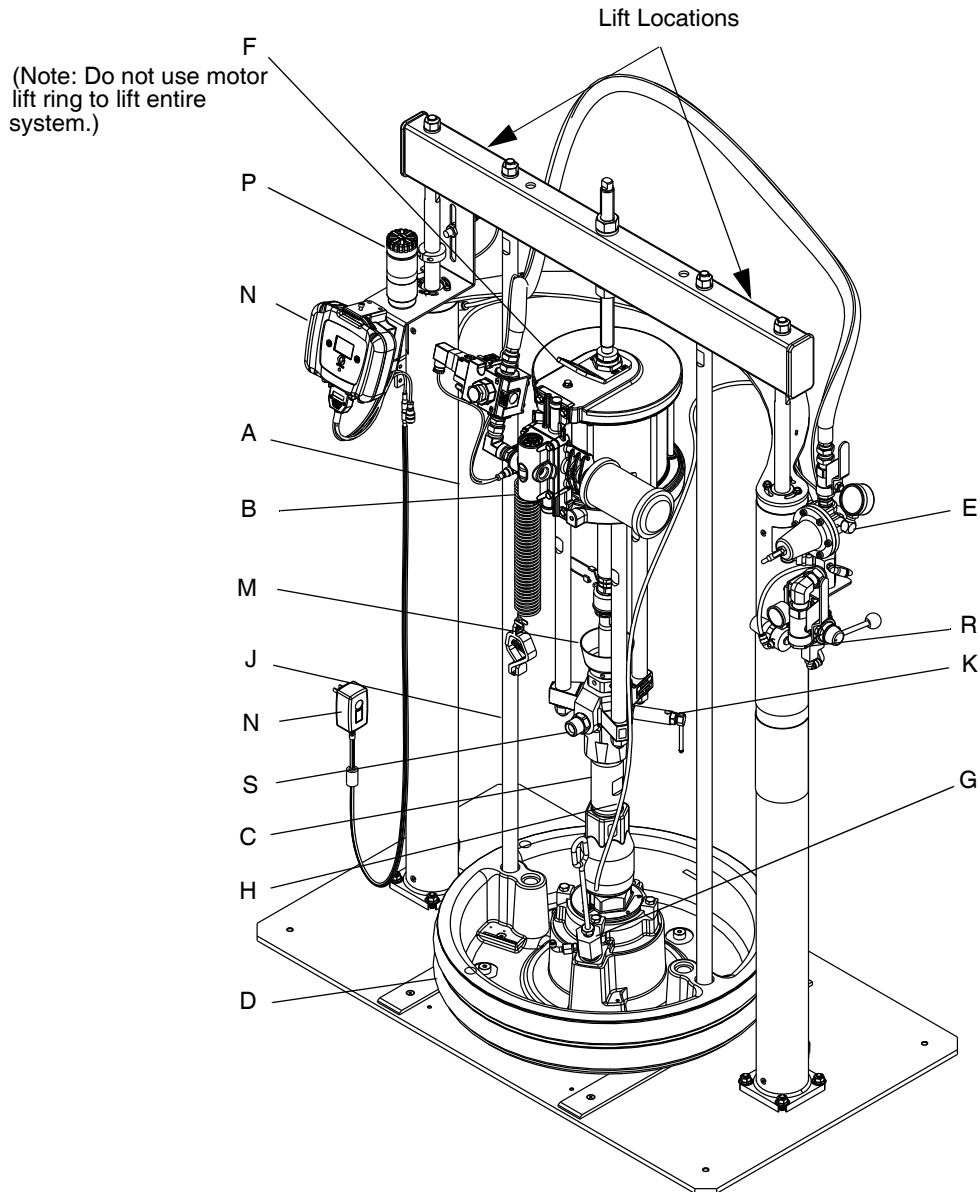
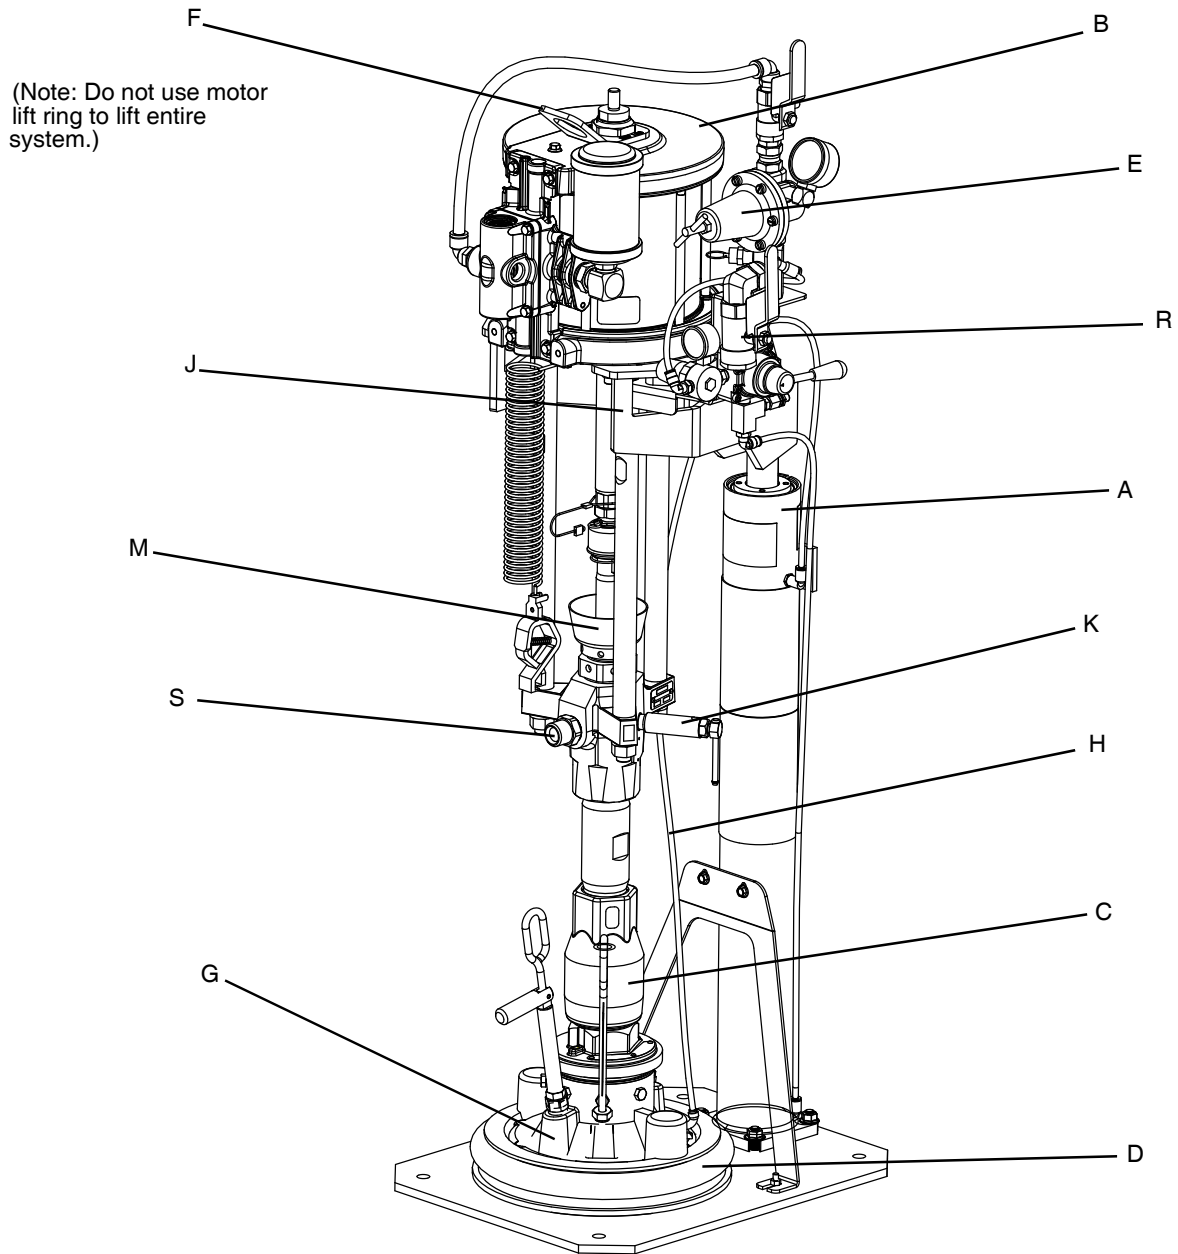
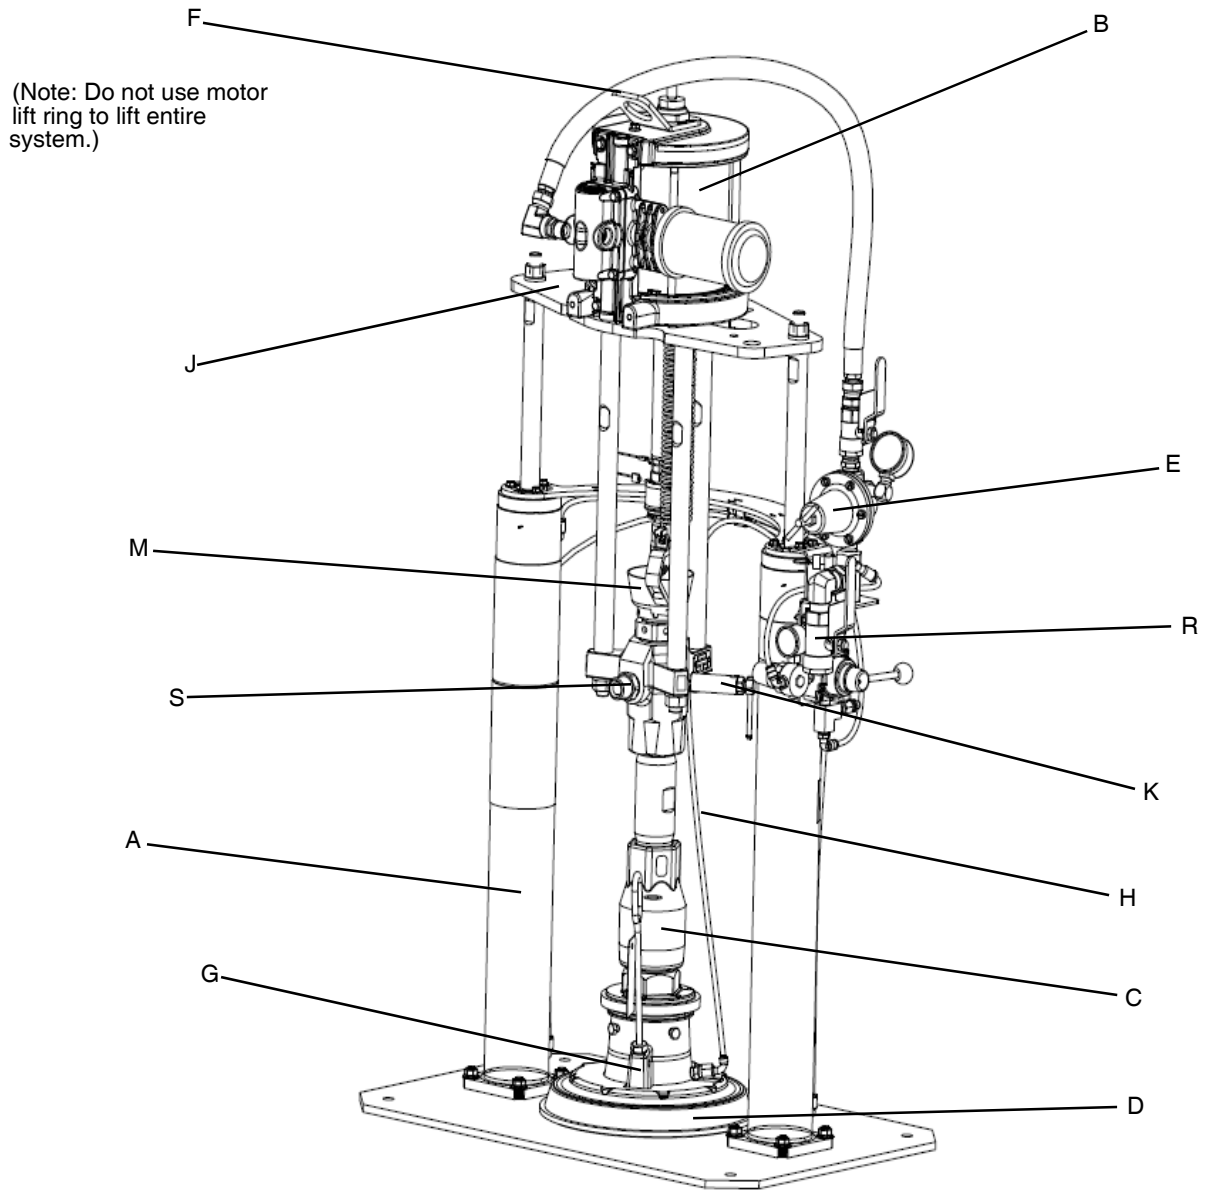

FIG. 1: System
FIG. 2: System
FIG. 3: System
Always lift supply system at proper lift locations (see FIG. 1). Do **not** lift in any other way.
3. Connect air line from an air source to the system air inlet. See FIG. 1, FIG. 2, and FIG. 3. Refer to the pump Performance Charts in the Check-Mate Pump Packages, Instructions-Parts manual to determine your air supply flow requirements. Use a supply hose capable of meeting the required flow.